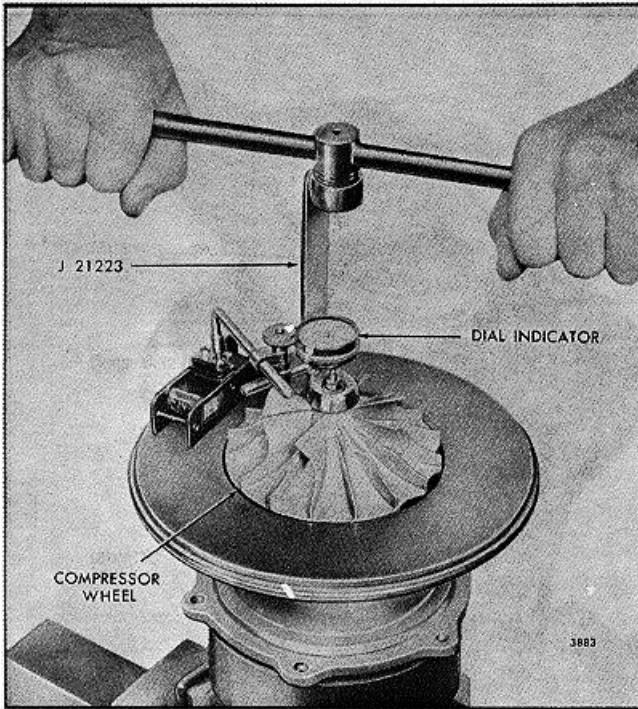

FIG. 33 - Tightening Compressor Wheel Lock Nut
- g. Place wrench J 21223-01 on the lock nut and attach a sliding tee handle to the wrench (Fig. 33).
- h. Place a magnetic base dial indicator on the center housing and position the stem of the indicator on the end of the shaft as shown in Fig. 33.